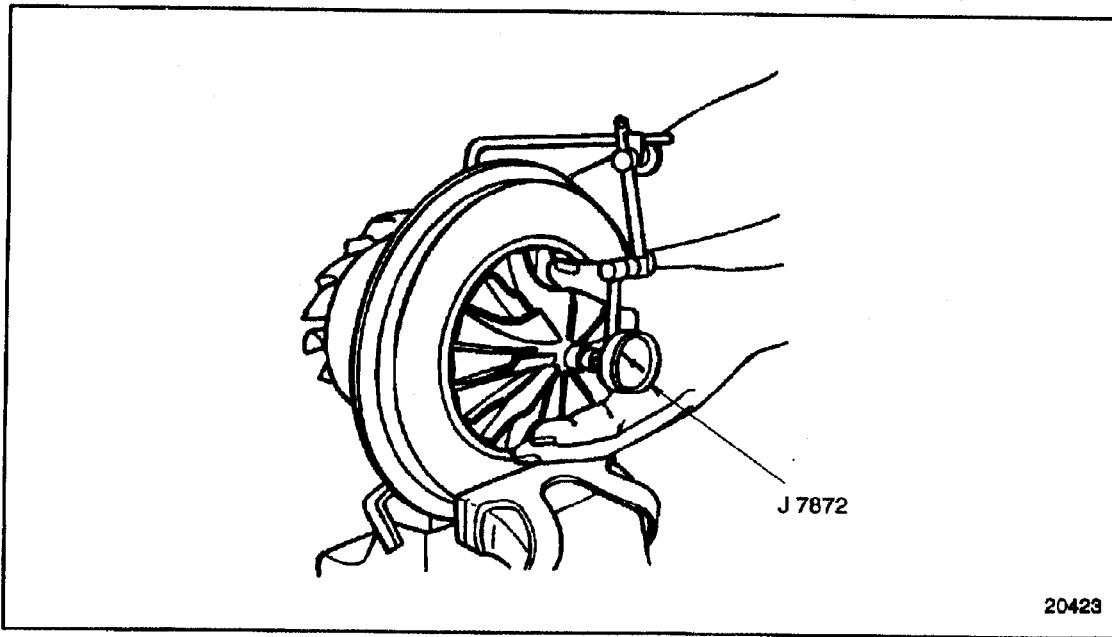

Figure 6-25 **Checking Bearing Axial End Play**
- [a] Clamp the center housing assembly in a bench vise equipped with soft jaws. See Figure 6-25.
- [b] Fasten the dial indicator and magnetic clamp, part of magnetic base dial indicator set, J 7872, to the center housing so that the indicator tip rests on the end of the rotating shaft on the compressor side. See Figure 6-25.